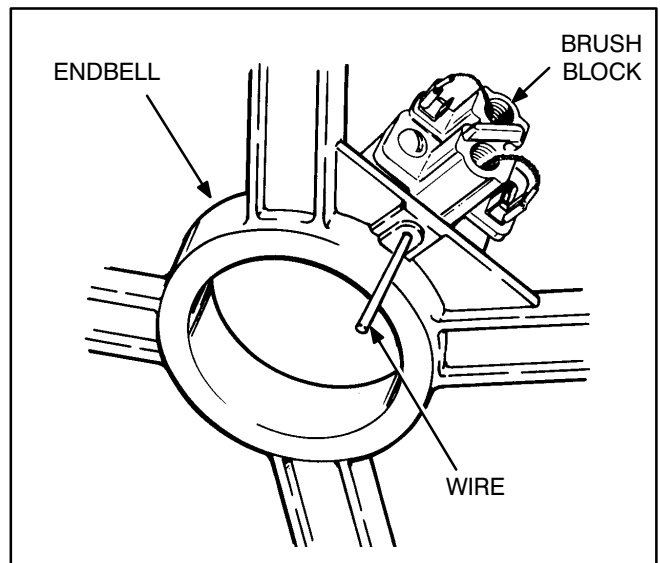

FIGURE 9-3. BRUSH BLOCK
10. Disconnect the wire harness leads from the brush block and pull each brush outward from the holder while inserting a wire into the small hole in the endbell at the bottom of the brush block (Figure 9-3). Release the brushes and check that each brush is being held off the slip rings by the wire. Remove the wires from the magneto assembly. Loosen the two screws holding the brush block to the endbell.
4. Prepare the endbell for installation. Lubricate the O-ring on the bearing. Verify that the brushes are held inside the holder with a piece of wire and that the brush block is loose. See Figure 9-3. Install the endbell onto the rotor bearing and secure to the stator housing with the endbell mounting screws.
3. Push each brush into the brush holder and insert a stiff wire through the small hole in the base of the holder (Figure 9-3). The wire holds the brushes off the slip rings during assembly.